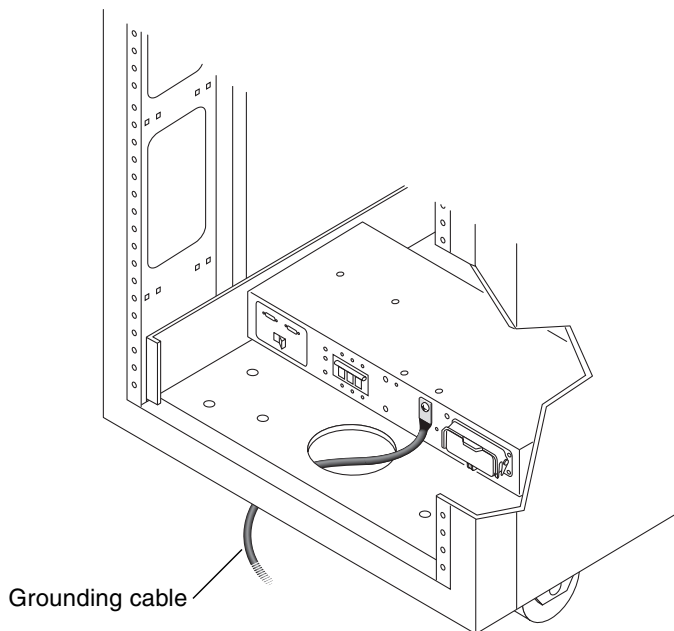

FIGURE B-6 Attaching the Grounding Cable to the Front Power Sequencer
3. Attach the other end of the grounding cable to the front power sequencer in the cabinet (FIGURE B-6).